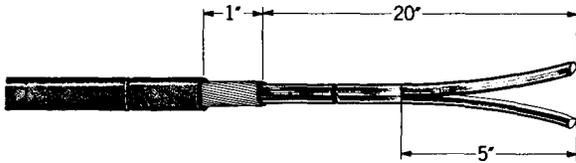

Fig. 6 — Preparation of D Underground Wire for D Cable Closure
2.14 To join D Underground Wire directly to a cable conductor in a D Cable Closure, prepare the wire as shown in Fig. 6.